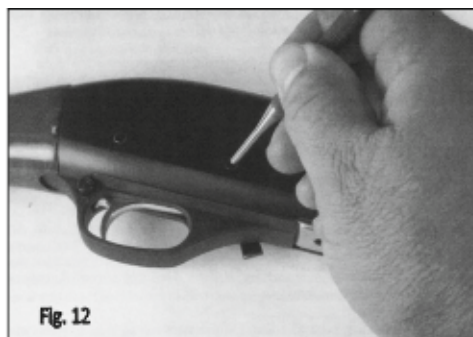

Fig. 12
4. With a hammer and punch push the receiver pins through the receiver (the pins should be pushed from the right side of the receiver towards the left side) (refer to Fig. 12) until the pins are out far enough to be grasped by hand, and remove the pins from the receiver.